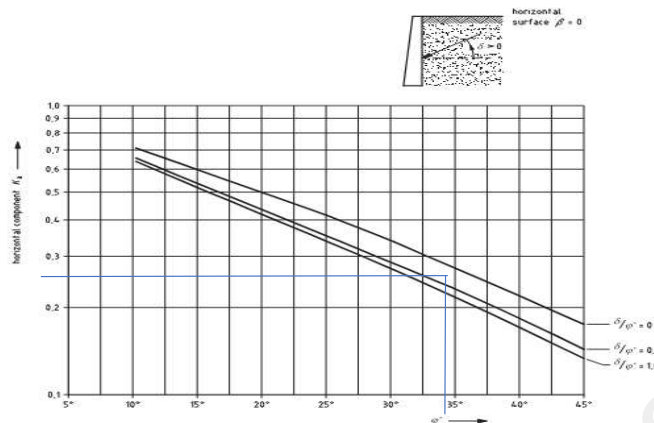

Figure C.1.1 — Coefficients K_a of effective active earth pressure (horizontal component): with horizontal retained surface ($\beta = 0$)
(3) Values of the effective earth pressure coefficients may be taken from Figures C.1.1 to C.1.4 for K_a and C.2.1 to C.2.4 for K_p .
(4) Alternatively, the analytical procedure described in C.2 may be used.
(5) In layered soils, the coefficients K should normally be determined by the shear strength parameters at depth z only, independent of the values at other depths.